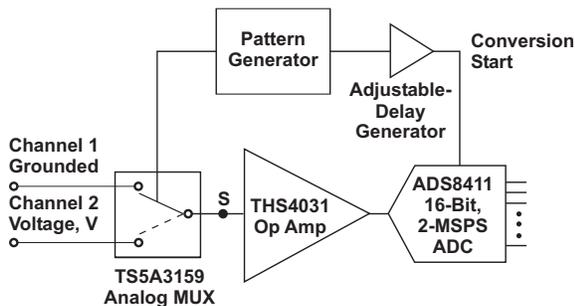
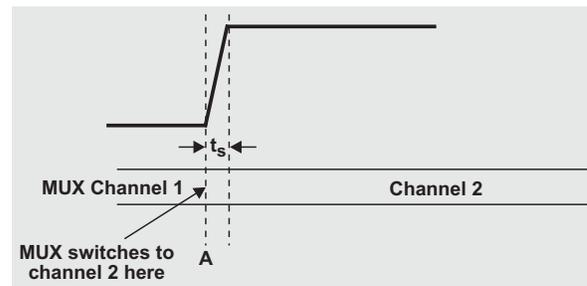
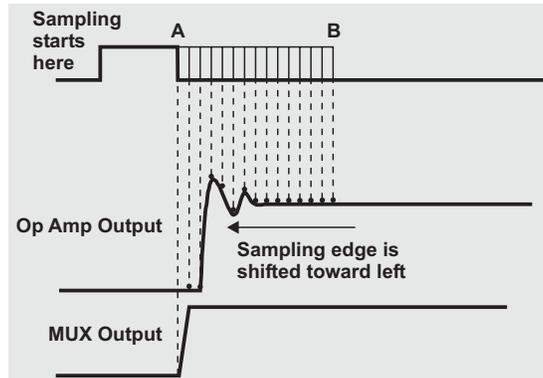

Figure 1. Settling Time Evaluation Setup
Figure 2. Settling Time for MUX Channel Change
Figure 3. Averaging n Samples from B to A Increases Accuracy
The ADC used here is the Texas Instruments (TI) ADS8411, which is a 16-bit, 2-MSPS successive approximation register (SAR) ADC. The driver op amp is the TI THS4031. Figure 1 shows the evaluation setup.
The analog MUX is switched from channel 1 to channel 2 at instant A in Figure 2. This diagram shows the voltage at point S (Figure 1) when the MUX switches over to channel 2 from channel 1. The settling time of the MUX is denoted by t_s . It is assumed that t_s is much shorter than the op amp settling time.
Once the analog MUX is switched at instant A, the input of the op amp starts changing. The output of the op amp starts changing after a very brief propagation delay after instant A. The op amp settling time (ideal) is approximately calculated from the slew rate and bandwidth specified in the op amp datasheet. The method proposed here plots the op amp output from instant A to instant B (Figure 3). The time difference between instant B and instant A is $2t_{ideal}$.
The first ADC sampling edge appears at instant B, and n number of readings (digital outputs from the ADC) are taken. The n number of readings are averaged for better accuracy (discussed later). Next the sampling edge is shifted to the left by 1 ns (Figure 3) with the help of a pattern generator and an adjustable-delay generator (Figure 1), and again n number of readings are taken. This way the sampling edge is shifted toward the left from instant B to instant A in 1-ns steps. At each sampling edge the average is stored in an element of an array. The array is plotted against the time to get the true picture of the op amp output settling (Figure 3).